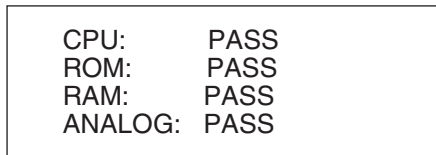

Fig. 10-2. All Tests Pass.
- Press the SAVE button to start the self-test. Disconnect all cables from the Scanner, then press any button. The display shown in Fig. 10-2 will appear if all tests pass.